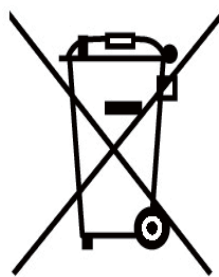

Figure 1
- (1) When shipping products incorporating MITSUBISHI device any time later than September 26th, 2008, the symbol mark shown as Figure 1 in section "Information for End-user" is required to be attached on the machinery or on the package. Also, the explanation of the symbol must be added.
- (2) Machinery with battery and maintenance battery produced before the EU Battery Directive are also subjected to the restriction. When shipping those products to EU countries later than September 26th, 2008, follow the instruction explained in (1).